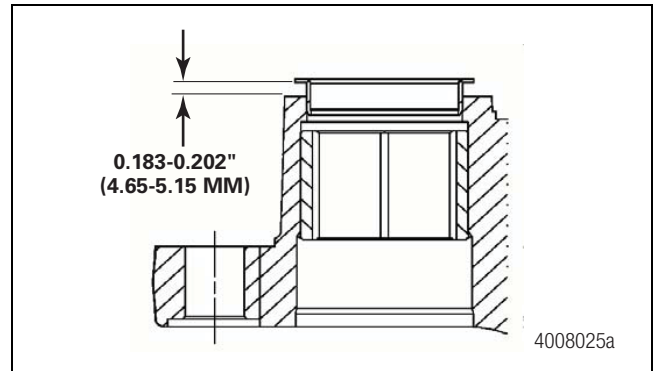

Figure 6.41
3. Use the applicable parts of Meritor tool MST1000 to draw the retainer into the slide pin bore until the flat face of the retainer is 0.183-0.202-inch (4.65-5.15 mm) from the end of the slide pin bore. Figure 6.41.